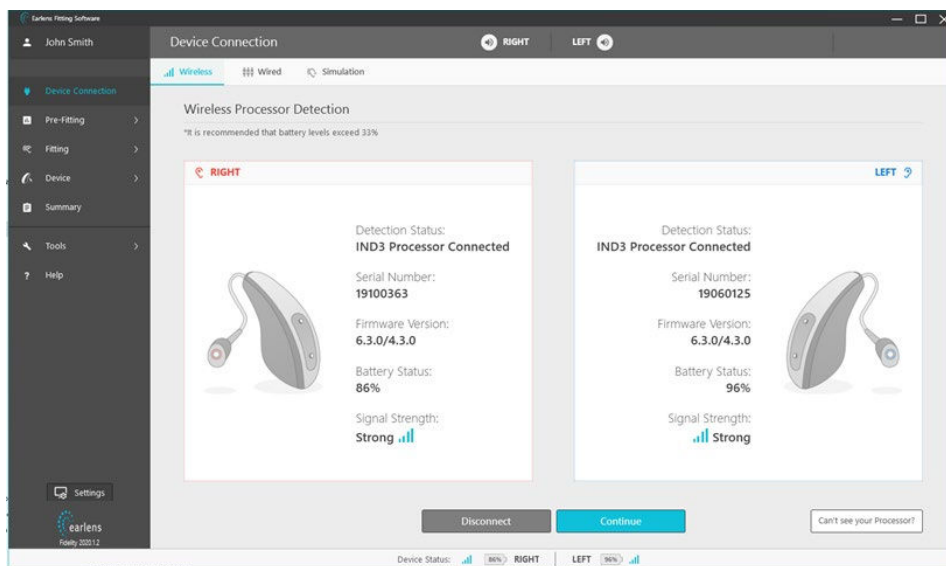

Figure 23. Device connection screen: details of connected processors
- a. Once the Processor(s) are connected, you will see details of the connected Processor(s) on the screen. Select “Continue” to begin the fitting session (Figure 23).